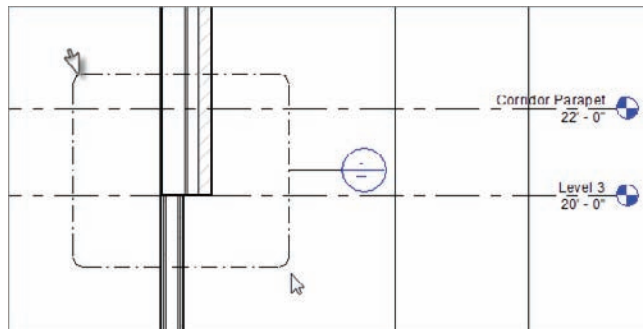

FIGURE 3.63 The callout area is directly related to the view it is calling out.
5. Pick a window around the area where the corridor fire wall meets the exterior wall with the brick façade, as shown in Figure 3.63.